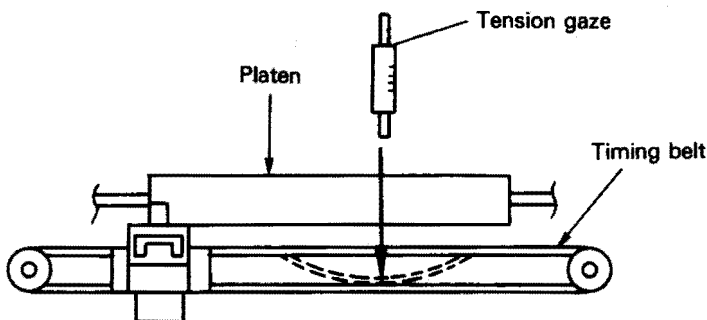

Figure 47.
1. The Timing Belt can be detached by removing two screws (② and ③) and taking out the Motor Timing Pulley.
2. Take out screw ① (Motor Set Screw) and remove the Motor from the Frame Unit. Disconnect the connector to control P.C.B.
5. Move the head till the left edge of platen. (see Figure 47)